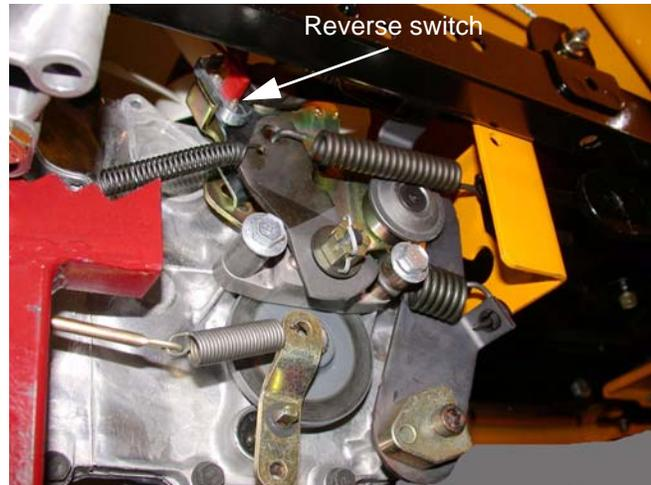

Figure 39.6
39.6. On hydraulic drive units the reverse safety switch is located on the right side just above the brake arm. See Figure 39.6.